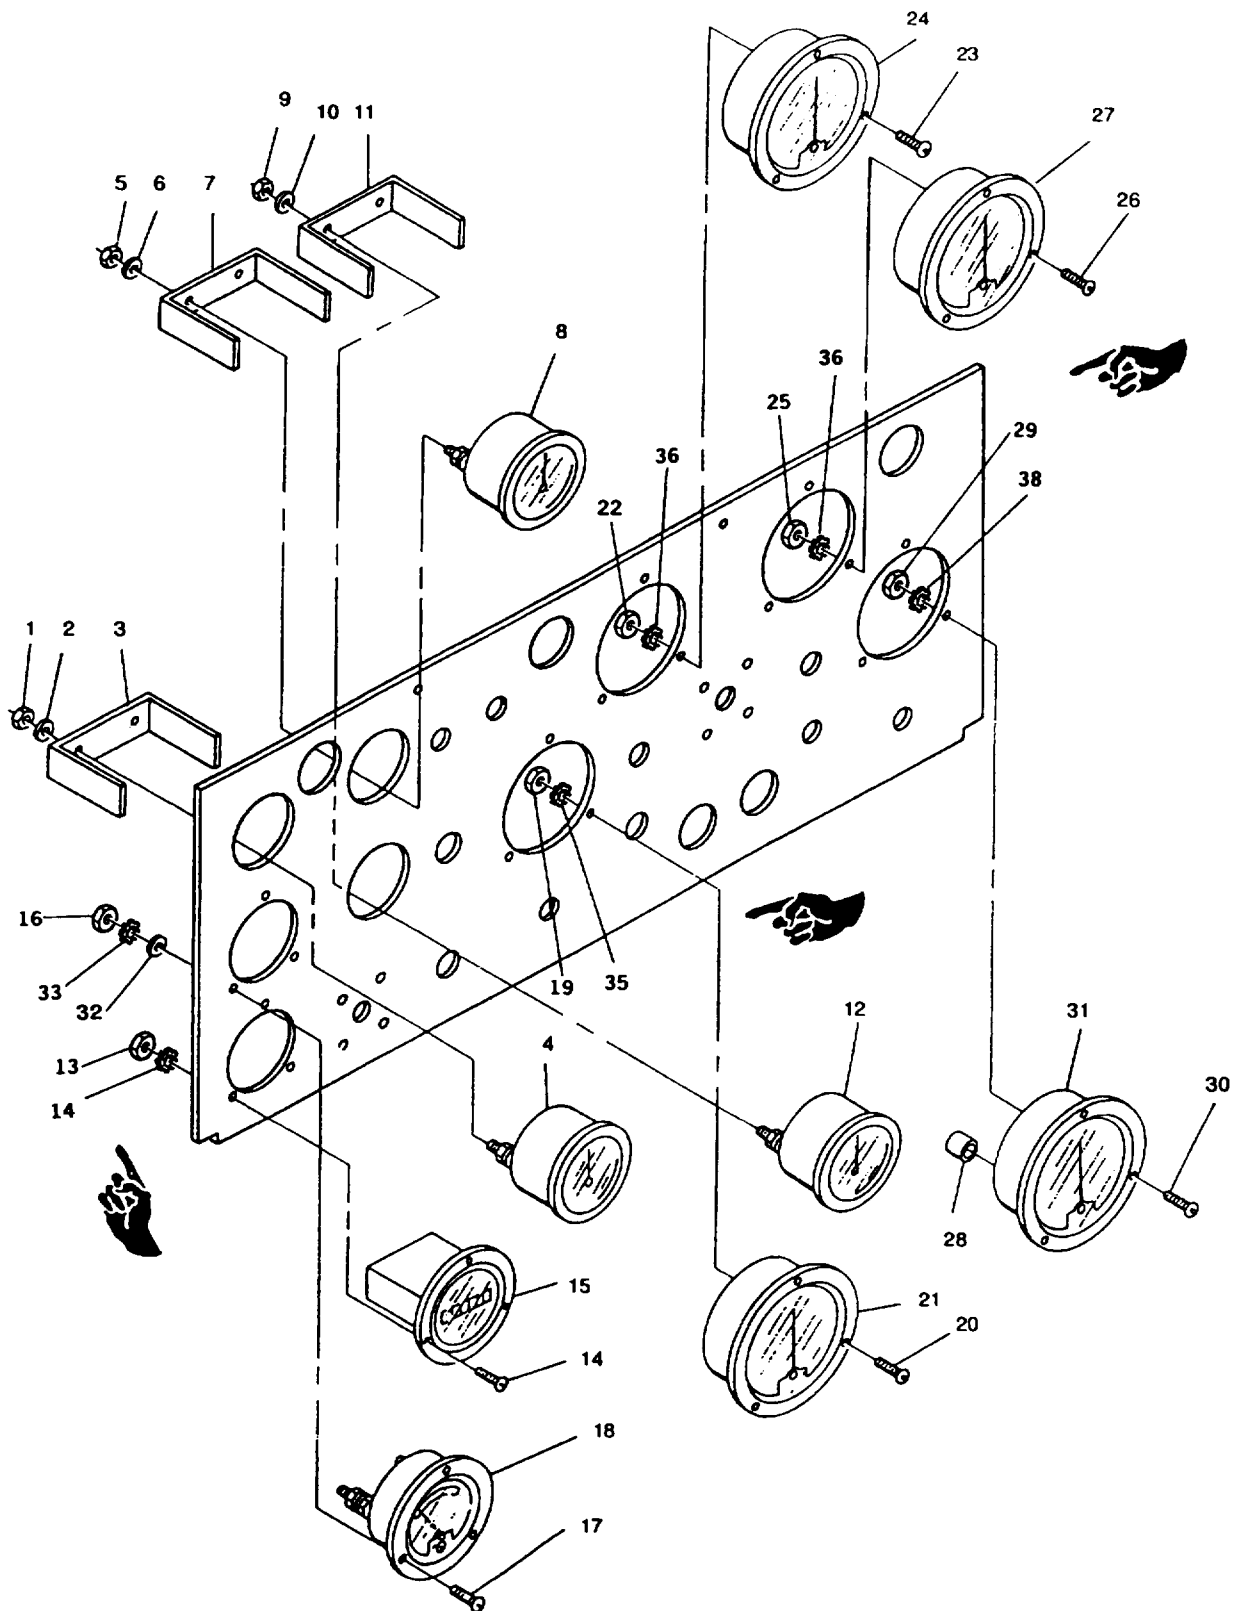

FIGURE 2-12. Control Panel Indicators
- d. Tag and disconnect FUEL LEVEL indicator (4, FIGURE 2-12) electrical leads.
- e. Remove nuts (1), washers (2), and damp (3).
- f. Remove FUEL LEVEL indicator (4) from control panel.
- a. Insert FUEL LEVEL indicator (4, FIGURE 2-12) into control panel.
- b. Install damp (3), washers (2) and nuts (1).
- d. Tag and disconnect COOLANT TEMP. indicator (8, FIGURE 2-12) electrical leads.
- e. Remove nuts (5), washers (6), and damp (7).
- f. Remove COOLANT TEMP. indicator (8) from control panel.
- a. Insert COOLANT TEMP. indicator (8, FIGURE 2-12) in control panel.
- b. Install damp (7), washers (6), and nuts (5).
- c. Release control panel by turning two fasteners and lower control panel slowly. d Tag and disconnect OIL PRESSURE indicator (12, FIGURE 2-12) electrical leads.
- e. Remove nuts (9), washers (10), clamp (11), and ground wire.
- f. Remove OIL PRESSURE indicator (12) from control panel.
- a. Insert OIL PRESSURE indicator (12, FIGURE 2-12) into control panel.
- b. Install clamp (11), washers (10), and nuts (9).